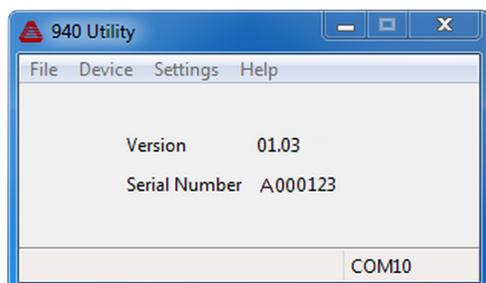

Figure 34: 940A Utility Reading Serial Number
4. The Utility should then read and display the current firmware version and the serial number. See Figure 34